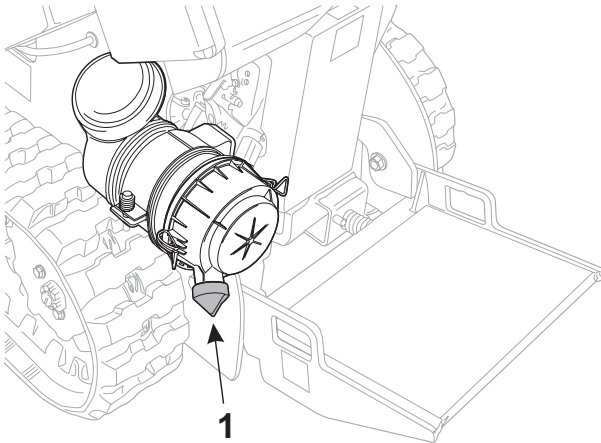

Figure 4-7 Release Dirt from Air Cleaner
7. Release dirt from separator tube at the bottom of the air filter by squeezing the rubber dust ejector valve (Item 1, **Figure 4-7**) underneath the air filter.